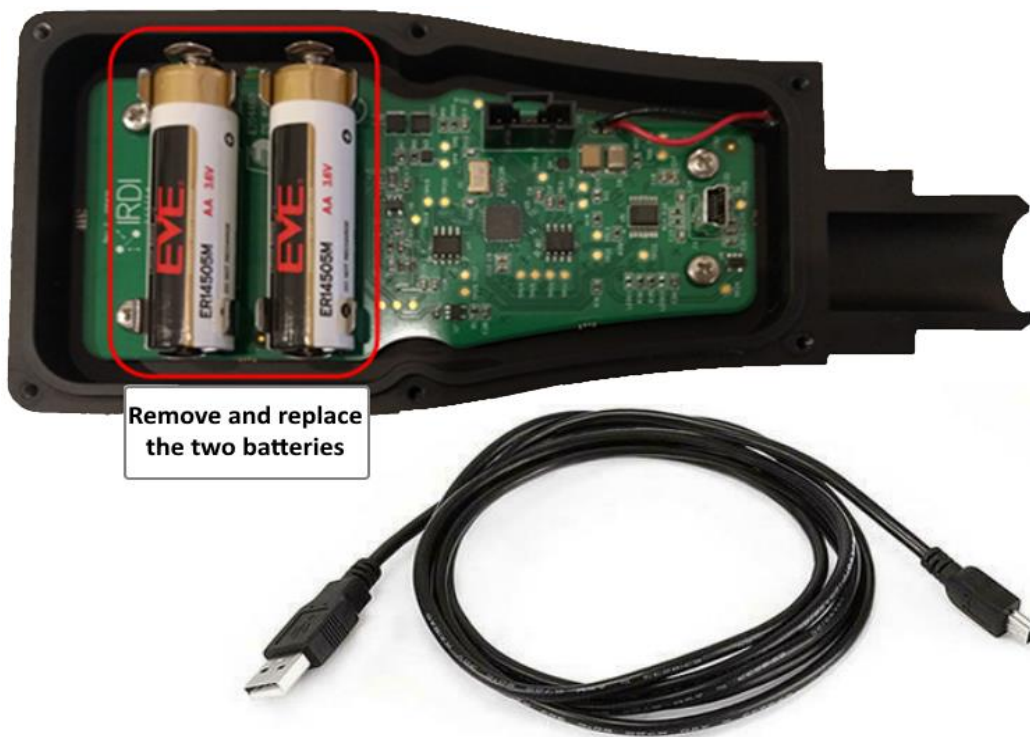

FIGURE 4-3 HHT BATTERIES - LOCATION IN HHT
STEP 2	Remove the old batteries – see Figure 4-3.
STEP 3	Install two new batteries – see Figure 4-3. Make sure to place the batteries in the right orientation – see the polarity markings on the circuit board under the battery holders.